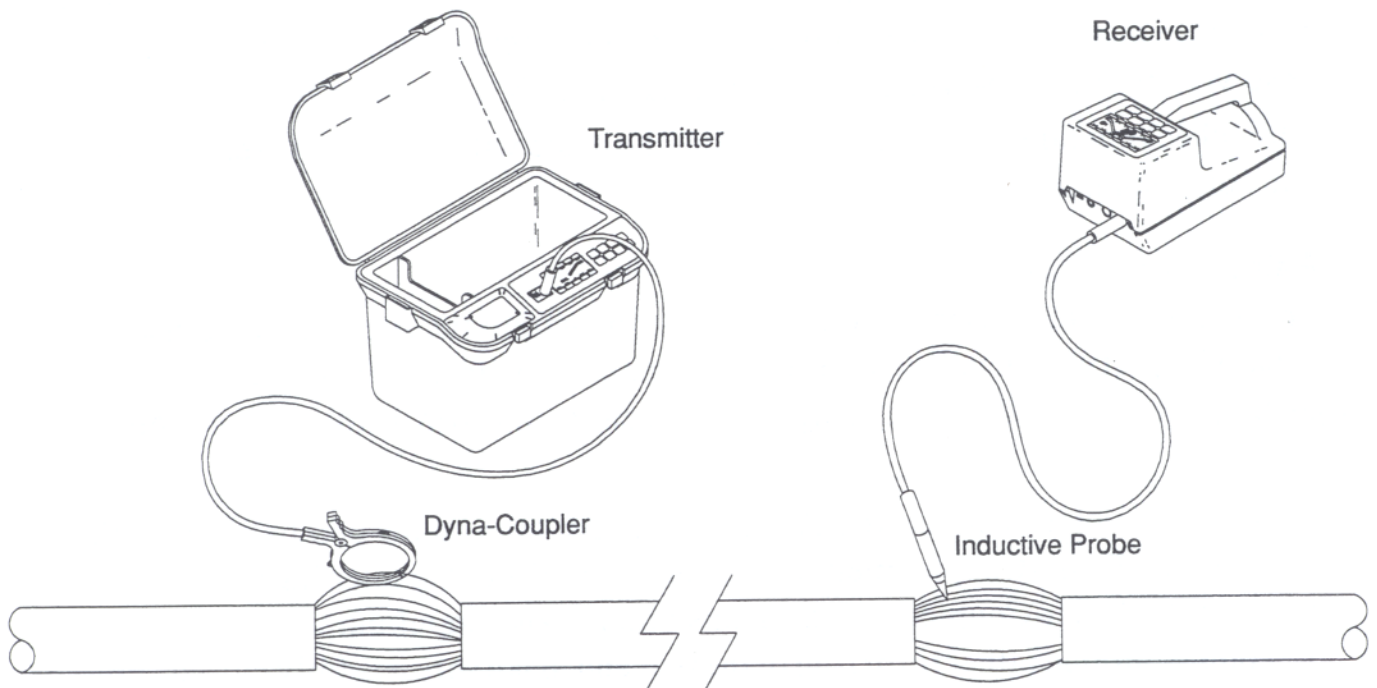

Fig. 4-1 Pair Identification
- 2.1 This procedure identifies individual conductors within the same cable. It uses the Dyna-Coupler and an inductive probe, so none of the pairs need to be cut. The use of the high frequency also allows tagging of conductors in a wet pulp section (refer to Fig. 4-1).